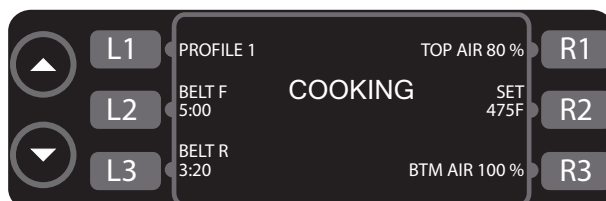
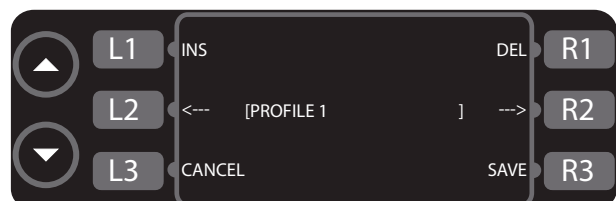

Figure 9: Cooking Screen
Figure 10: Name Change Screen
When the rigid option is enabled for a given setting, the soft key adjacent to that setting (Figure 9) is disabled and no menu editing is allowed.
- From the cooking screen (Figure 9), press L1 to access the name change screen (Figure 10).
1. From Figure 9, press the soft key adjacent to the conveyor belt you wish to adjust (press L2 for the front belt [Belt F] or L3 for the rear belt [Belt R]).
1. Press R2 (Figure 9, page 11) to access the temperature controls.
1. Press R1 (Figure 9, page 11) to access the top air controls, or R3 to access the bottom air controls.